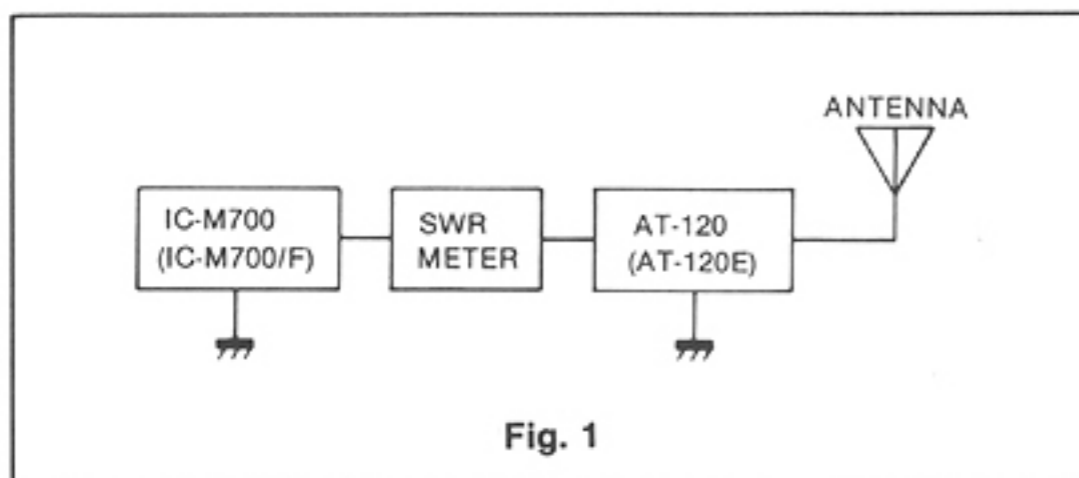

Fig. 1
- (1) Connect the SWR meter between the IC-M700 and AT-120 as shown in Fig. 1.